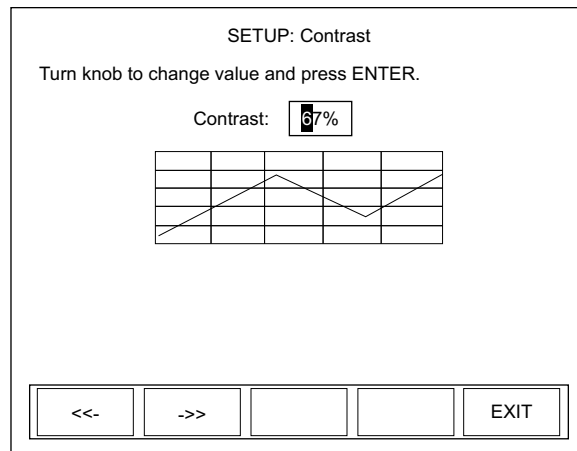

Figure 4-49. SETUP: Screen Contrast (Changing the Values)
2. Press the ENTER/SET button to Display the SETUP: Contrast screen (Figure 4-49).